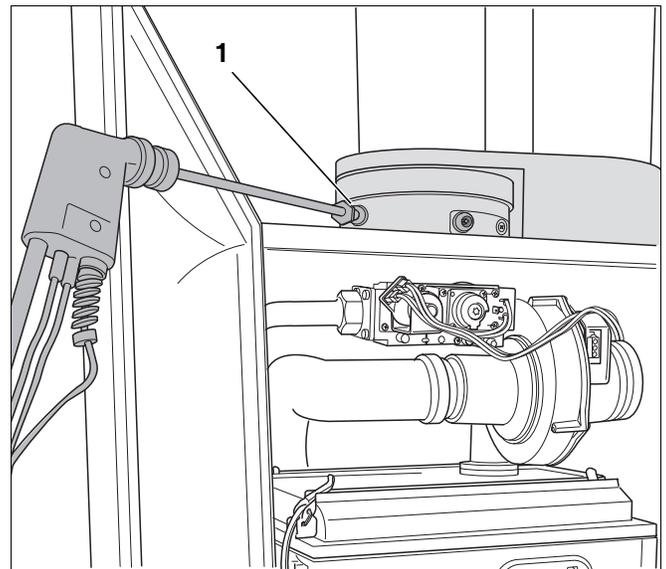

Fig. 65 Measuring the gas supply pressure
- Remove the cover from the flue gas measuring point (fig. 65, pos. 1).
- Connect the flue gas analyser to the left-hand measuring point (fig. 65).
- Measure the carbon monoxide content at the flue gas measuring point (fig. 65).
- Remove the flue gas analyser and fit the cover back onto the flue gas measuring point (fig. 65, pos. 1).